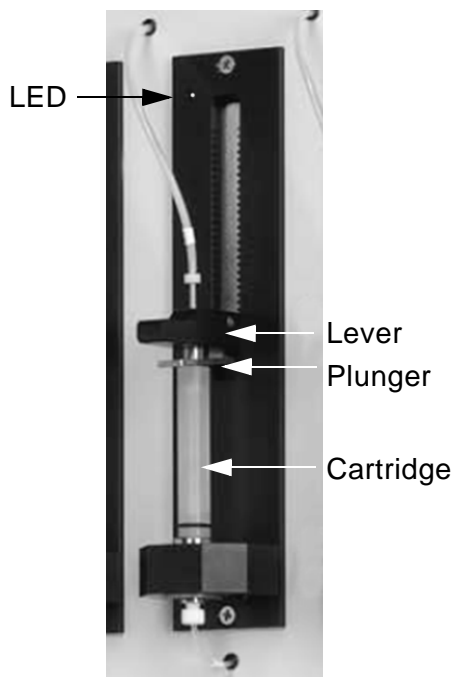

Figure 3-1. Cartridge Holder Front View
10. **For the Dionex AutoTrace 280 cartridge model:** Place cartridges in each holder to be used by sliding a cartridge upward onto the bottom of the cartridge holder's plunger. Push down on the lever until the assembly “clicks” into place and the holder's LED comes on (see Figure 3-1).